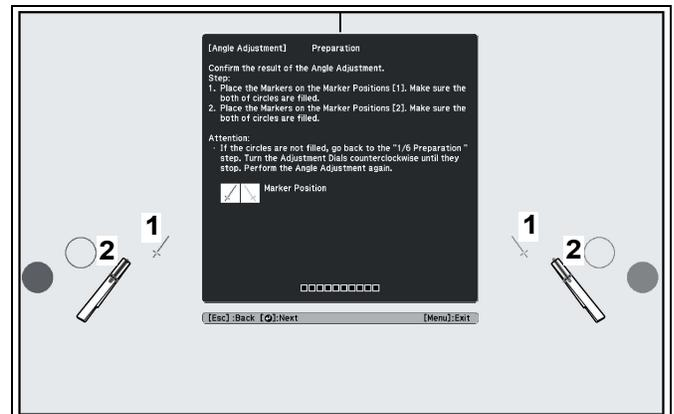

Figure 46
- Place the markers at the bottom marker positions (2). When angle adjustment is performed correctly, the bottom circles become solid. (See Figure 46)